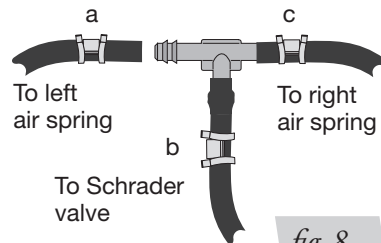

fig. 8
2. Use this procedure (Fig. 8) for all air line connections: